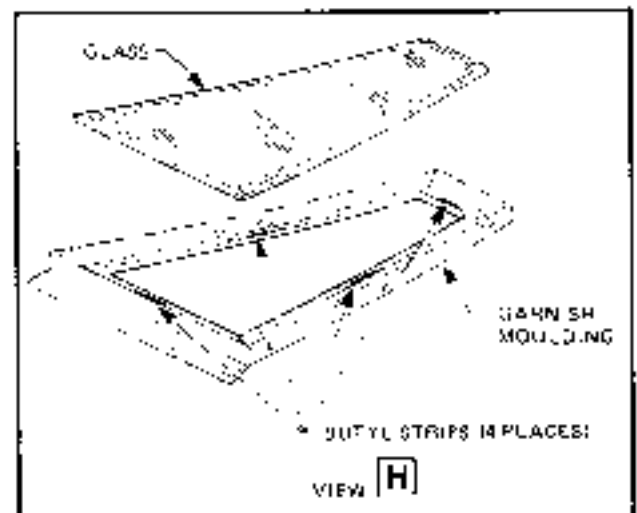

Figure 1A-22
5. Locate blade of Tool No. J24462, glass sealant remover, between inside of glass and urethane as illustrated in Fig. 1A-23, then cut through urethane around complete periphery of glass.